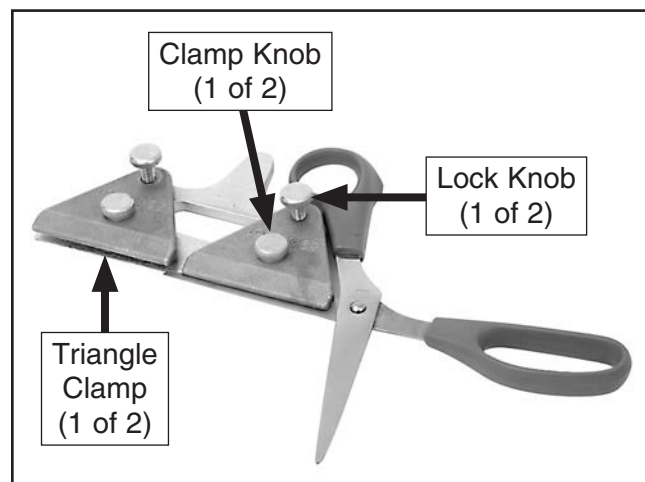

Figure 5. Example of scissor blade secured in clamp.
6. Insert (1) blade of scissors or shears into clamp, as shown in **Figure 5**, and tighten clamp knob to secure.
7. Tighten lock knob to secure (see **Figure 5**).